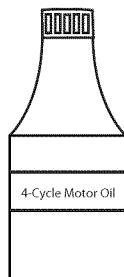

Fig. 18
5. Refill the crankcase with 1.7 fluid oz. (50 mL) of SAE 10W-40 SF, SG, or SH oil (Fig. 18).